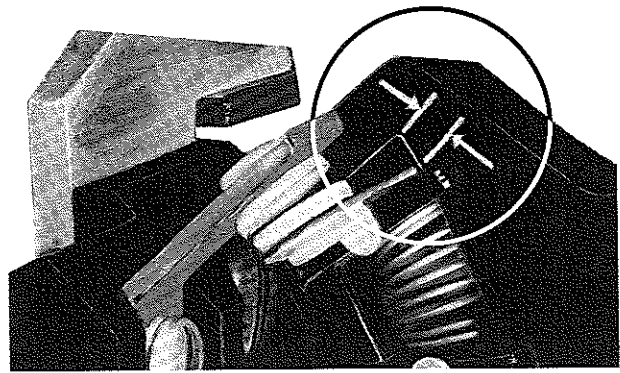

Figure 3
1. With all power removed, check that the electrical interlock (43) has the proper follow-up. With new electrical interlock contacts, the moving contacts (46) should provide at least 1/16" follow-up on each stationary contact when the contact arm reaches its limit of travel; either completely closed or completely opened (Fig. 3)